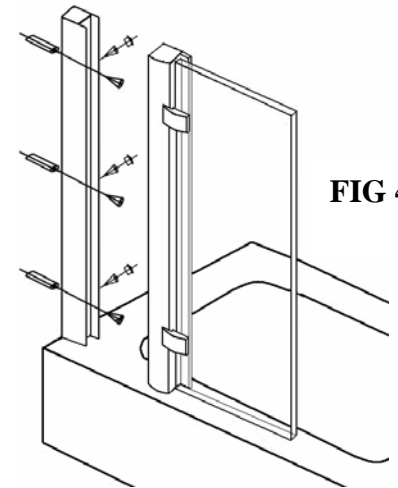

FIG 4
3. Plumb the wall profiles **V1118** using the vertical element of the spirit level. Mark 3 holes, drill with 6mm masonry bit and fit wall plugs **V8117**. Using the 3 Screws **V4111**, fix wall profiles to wall. **Fig 4**.
5. Drill 3 holes through the wall profile and frame profile using the steel drill bit **V6115**. Use screws **V4110**, with screw cover cap clips **V2110** to fix the hinge upright to the wall profile in 3 places. **Fig 4**.